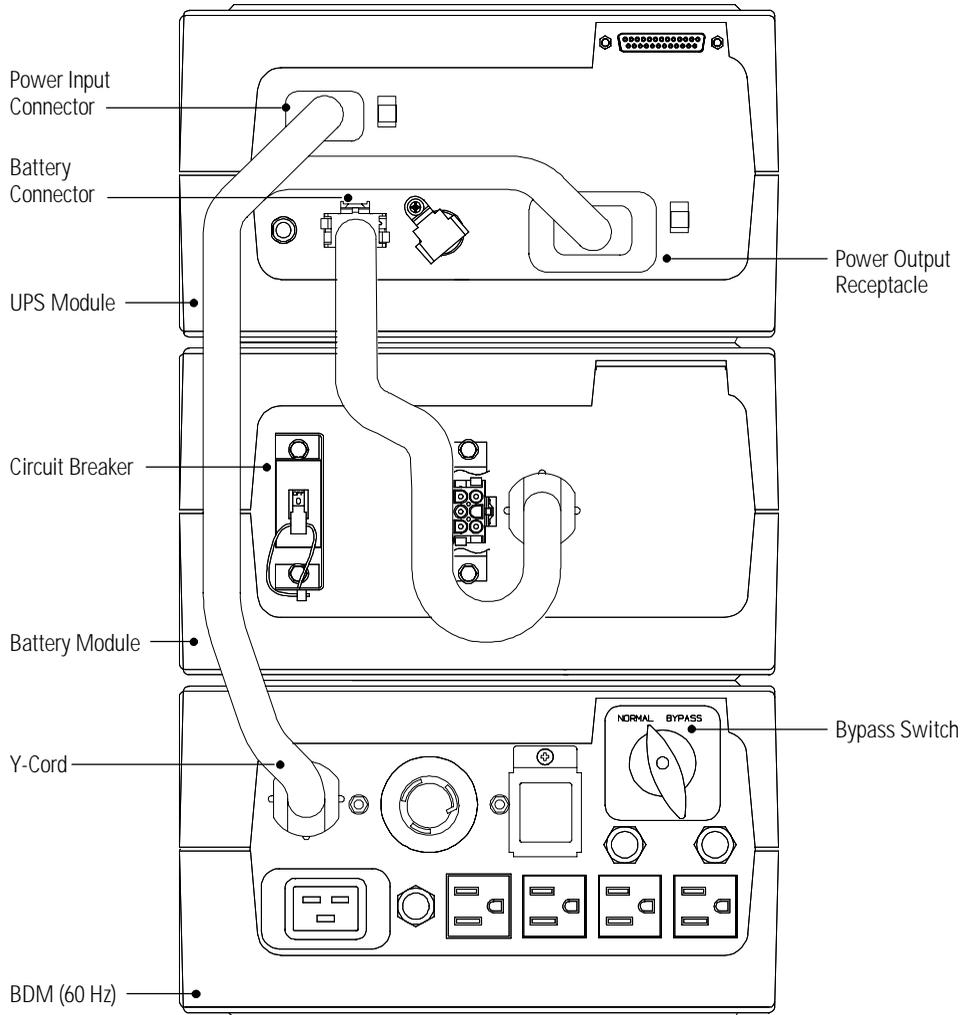

Figure 20. UPS with Bypass Module Rear Panel (60 Hz BDM Shown)
1. Turn the Bypass switch on the Bypass Module to the BYPASS position (see Figure 20). The Bypass Module is now powering your equipment from utility power.
4. Press and hold the Output  Off button while plugging the Y-cord of the Bypass Module into the power connectors on the UPS as shown in Figure 20.
- Plug the Y-cord of the Bypass Module into the power connectors on the UPS as shown in Figure 20.